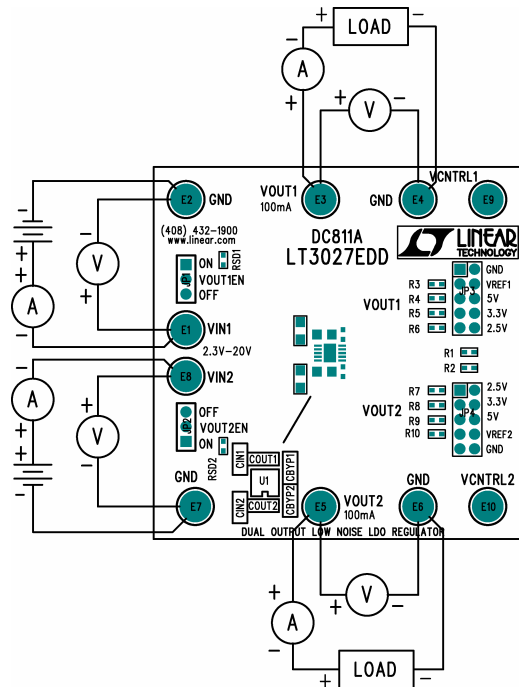

Figure1. Proper Measurement Equipment Setup
The DC811 is easy to set up to evaluate the performance of the LT3027. For proper measurement equipment configuration, set up the circuit according to the diagram in Figure 1.
1. Connect the input power supply to the Vin and GND terminals. Connect the loads between the Vout and GND terminals. Refer to figure 1 for proper measurement equipment setup.